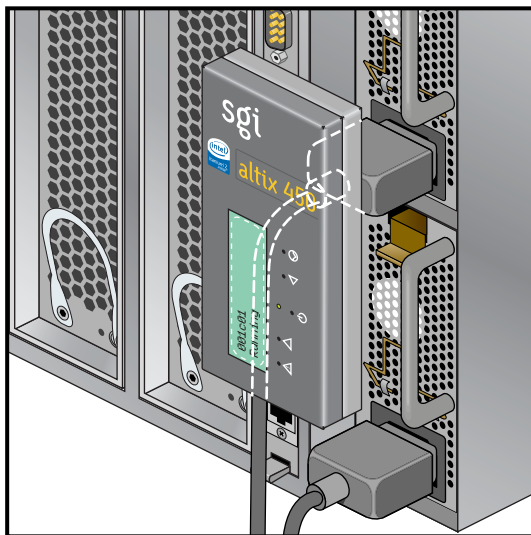

Figure 2-1 IRU Power Supply Cable Location Example
2. For each individual IRU that you want to power on, make sure that the power cables are plugged into all the IRU power supplies correctly, as shown in Figure 2-1. Setting the circuit breakers on the PDUs to the "On" position will apply power to the IRU and will start the system controller(s) in the IRUs. Note that the system controller in each IRU stays powered on as long as there is power coming into the unit.